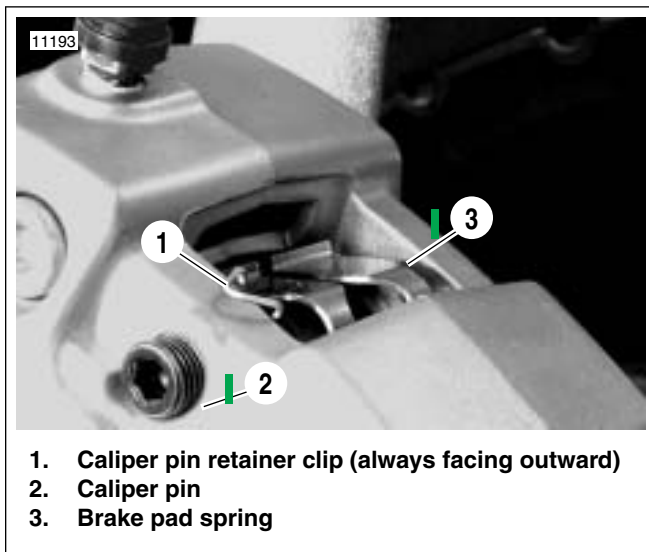

Figure 1-36. Rear Caliper Pad Clip and Pin (6 pt/ 5 mm) (caliper cover removed for photo clarity)
4. See Figure 1-36. Remove screen cover by pulling single prong side first, caliper pin retainer clip, and caliper pin (6 pt/5 mm). Inspect caliper pin and caliper pin clip for damage or wear. Replace as necessary.